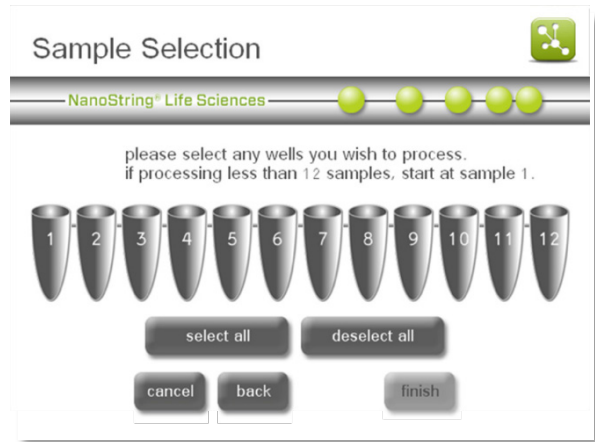

Figure 132: The 'Sample Selection' screen.
- The 'Sample Selection' screen will appear (Figure 132). After selecting the samples to be processed, press **finish**.